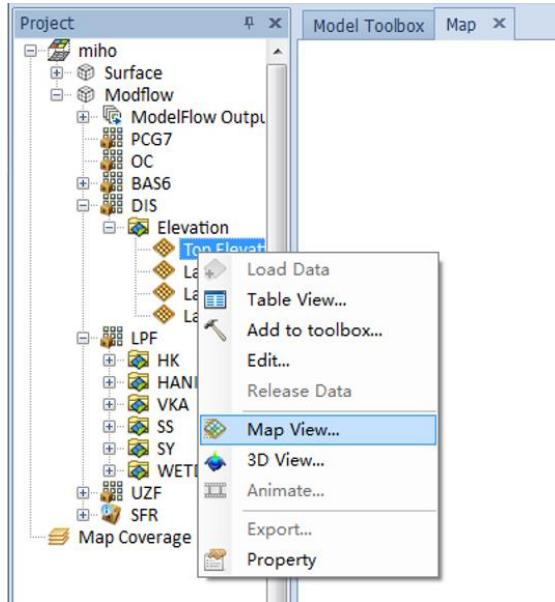
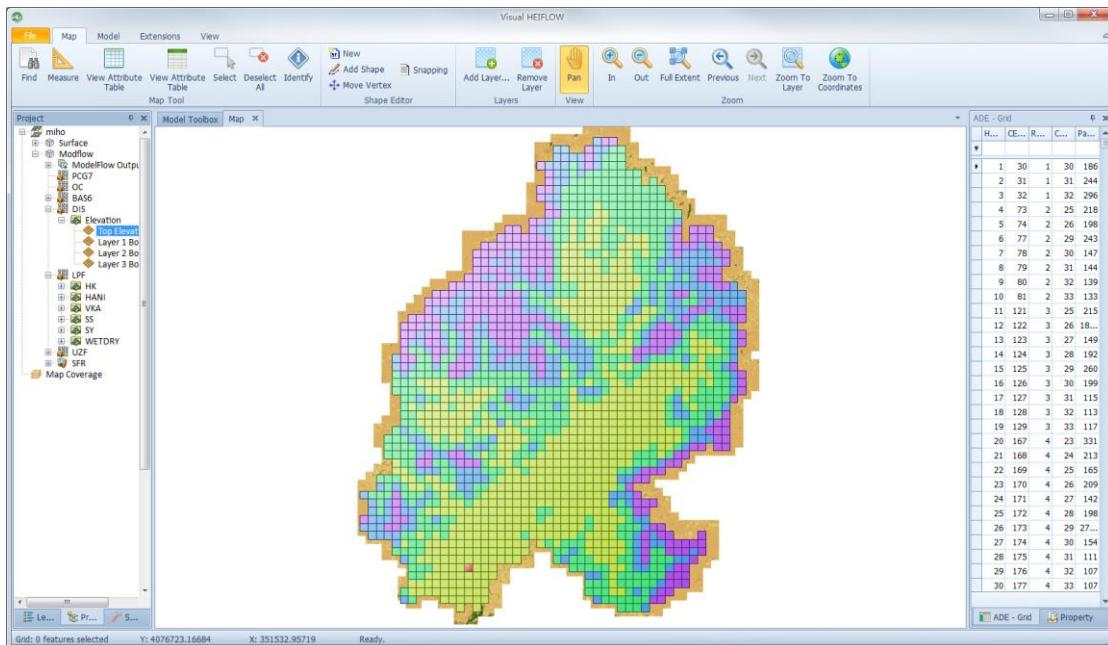

Figure 4-16. Map View context menu
Figure 4-17. Map View of Top Elevation
- Select Project Explorer Panel in the left side of the main window, locate to Modflow-DIS-Elevation, right click on Top Elevation, and click Map View... (Figure 4-16). Then the map looks like Figure 4-17.
9. In the context menu shown in Figure 4-16. Map View context menu, click 3D View, then a dialog entitled “3D View” appears: